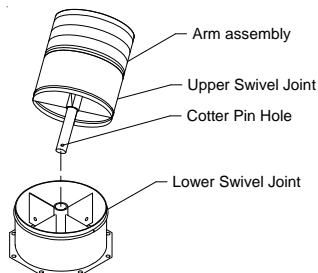

Fig. 1
2. Mount the hose assembly to the unit. Insert the shaft into the lower swivel joint. The flexible hose must be pulled back. Insert the cotter pin (supplied) by reaching through both swivel joints to the underside of the lower swivel joint (fig. 1).